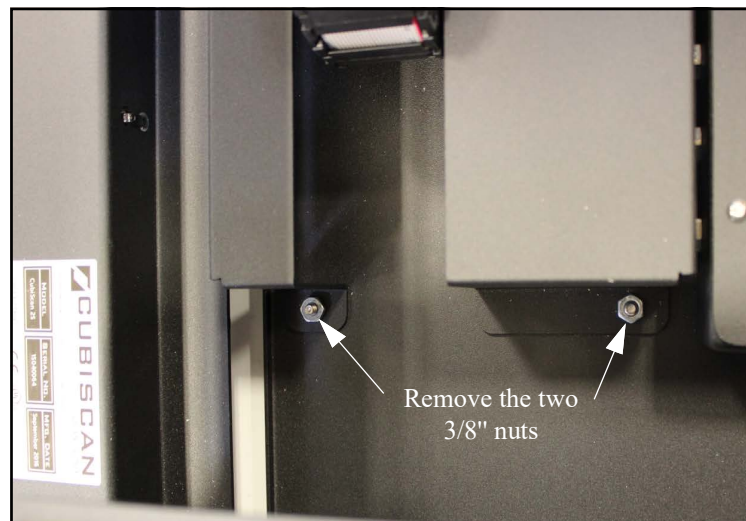

Figure 67
9. Remove the two nuts using a 3/8" nut driver (see Figure 67).